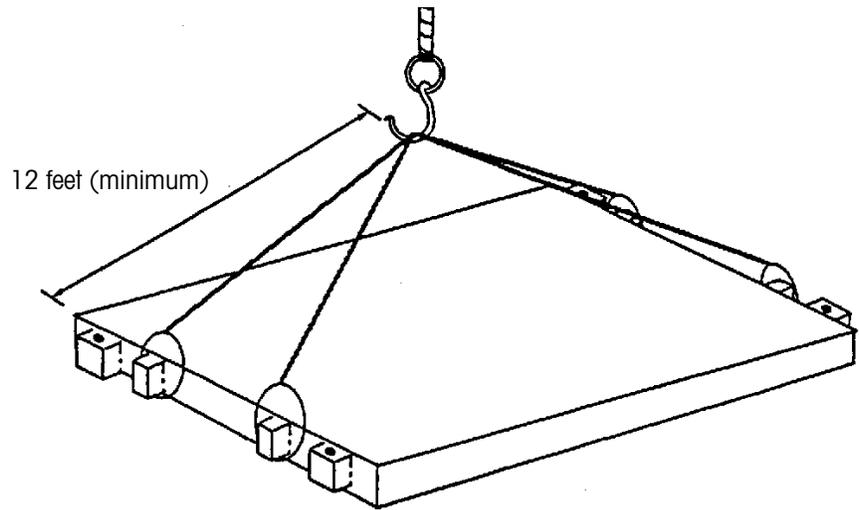
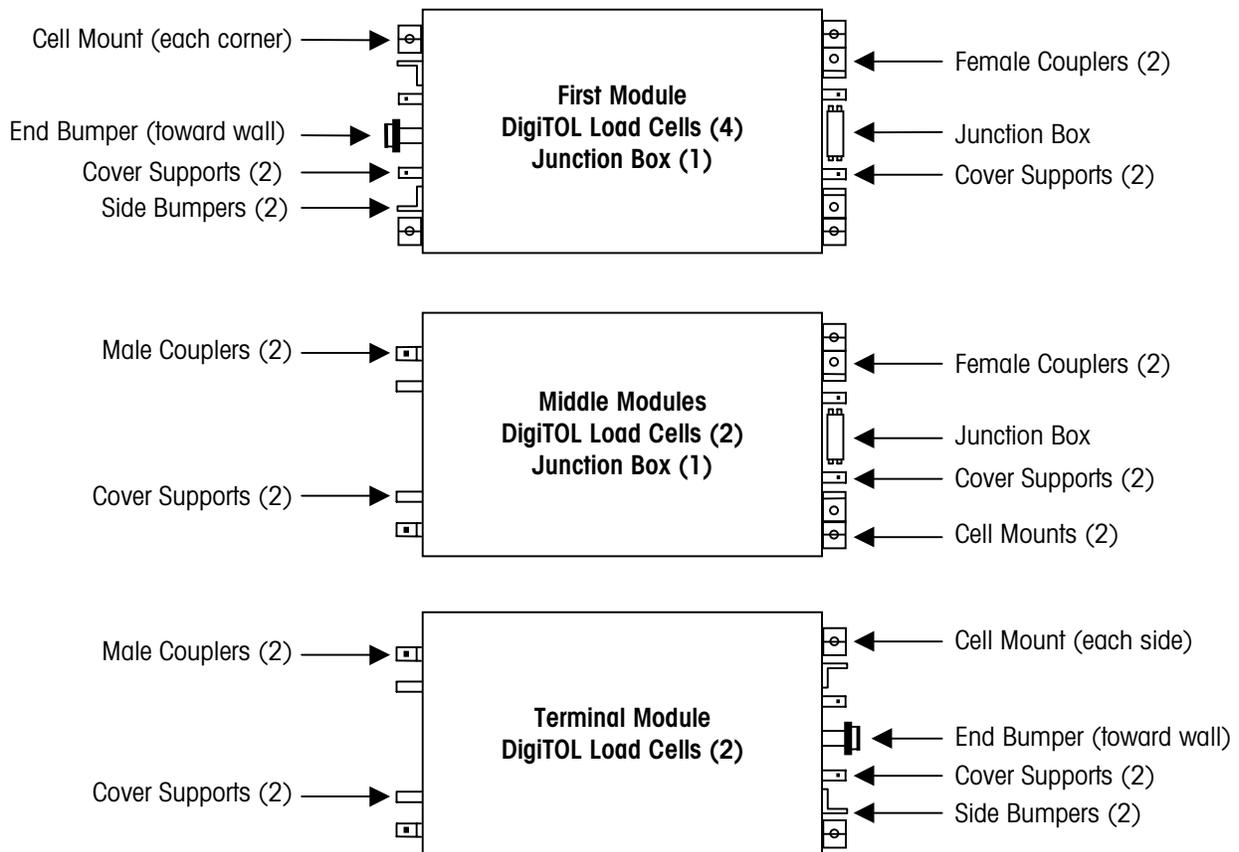

Figure 3-1: Module Lifting Procedure
Figure 3-2: Types of Modules
If the truck scale is being delivered by a METTLER TOLEDO truck, unloading will be handled and supervised by the METTLER TOLEDO driver. Otherwise, unload the modules by lifting them as shown in Figure 3-1. Remove the gap and load cell covers before lifting, so that the covers are not damaged. Lift the modules with a quadlift chain attached to the gap cover supports. Approximate module weights are listed in Table 3-1.
Figure 3-2 shows the three types of modules. Make sure that the bottom module is stored off the ground. We recommend placing lengths of 4 x 4 lumber under the module to support it. Place additional lengths of 4 x 4 lumber between each pair of modules. Store all other mechanical accessories in a clean, dry area. Store electrical instrumentation and load cells in a clean, dry area. If the modules will be stored for more than one month, the cable connectors should be filled with connector dielectric compound (TN203056).
- a. The First Module to be set in place is the module that requires four load cells (see Figure 3-2). Lift the module as shown in Figure 3-1. Before setting this module in place, make sure that the end bumper assembly and side bumper bolts have been installed. Position the module so that the end with the end bumper and side bumpers faces the approach wall. The first module should be reasonably square with the end wall and spaced away from the end wall as shown in the assembly drawing.